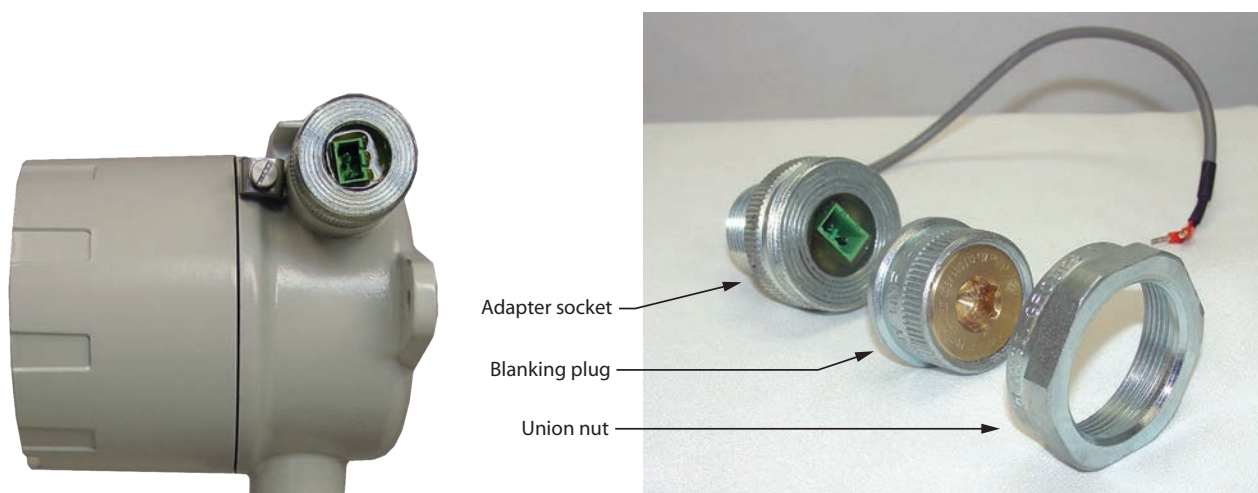

Figure A.4—Components of explosion-proof communications adapter
The explosion-proof communications adapter provides an RS-485 connection for connecting a laptop or PC to the instrument without removing the instrument cover. When the adapter is ordered with an MC-III EXP, it is factory installed. The installed adapter is comprised of an RS-485 adapter socket, a blanking plug, and a union nut (Figure A.4). It may be relocated to either conduit opening in the instrument housing.
1. Unscrew the union nut to expose the connector socket shown in Figure A.4, page A-3. (A blanking plug will be removed with the union nut. Store the union nut and blanking plug in a safe place. They will need to be reinstalled when the adapter is not in use.)